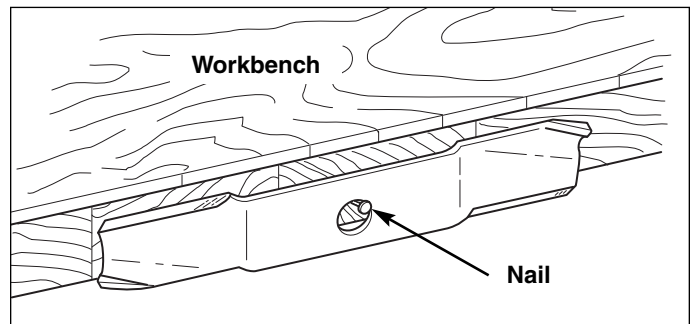

Figure 15. Balancing The Blade
5. Balance the blade as shown in Figure 15. Center the blade's hole on a nail lubricated with a drop of oil. A balanced blade will remain level.